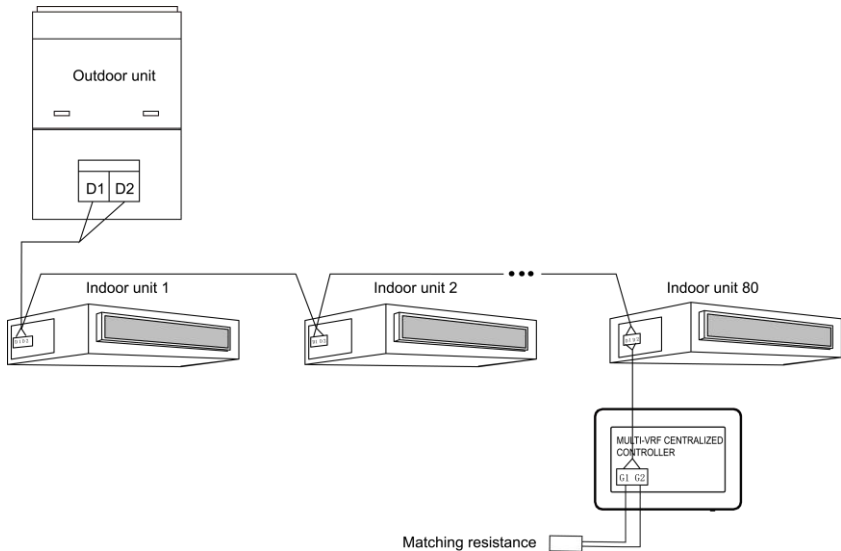

Fig.1.4 Centralized Controller Connected with Indoor Network
- ① The smart centralized controller is applicable to multi VRF units, connectable with network of indoor units or the network of outdoor units. One centralized controller can control up to 16 sets of outdoor system and up to 128 sets of indoor unit.
- ① If the centralized controller is to be connected with the network of indoor units, connect according to fig.1.4. The controller can connect with any one indoor unit in series, that is, connect the controller's G1 and G2 ports with the D1 and D2 ports correspondingly with communication cords. When the controller is connected with the terminal unit of indoor network, a matching resistance needs to be added with the communication cords at the G1 and G2 ports.